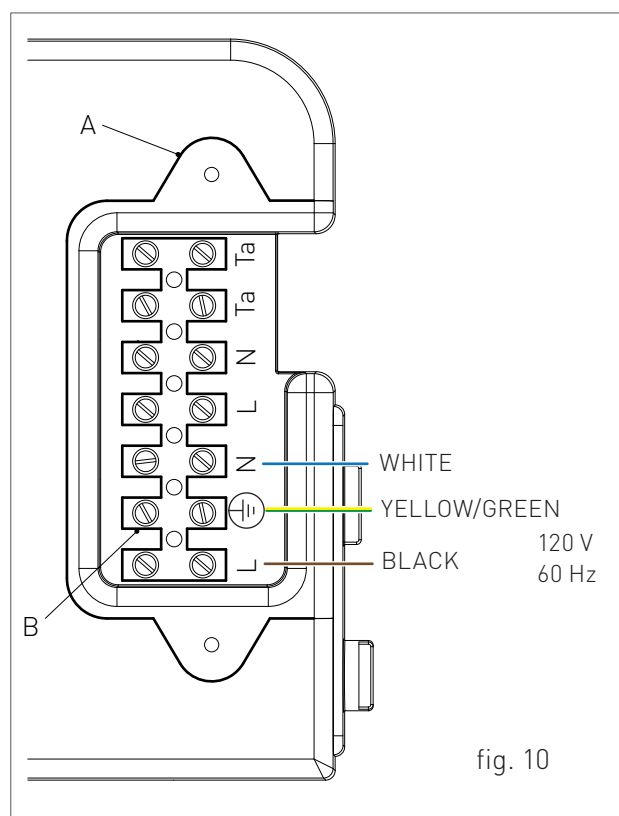

fig. 10
- › loosen the two screws and remove the plate "A" (see fig. 10).
- › after removing the plate, connect the electrical cables to terminal "B" (see fig. 10):